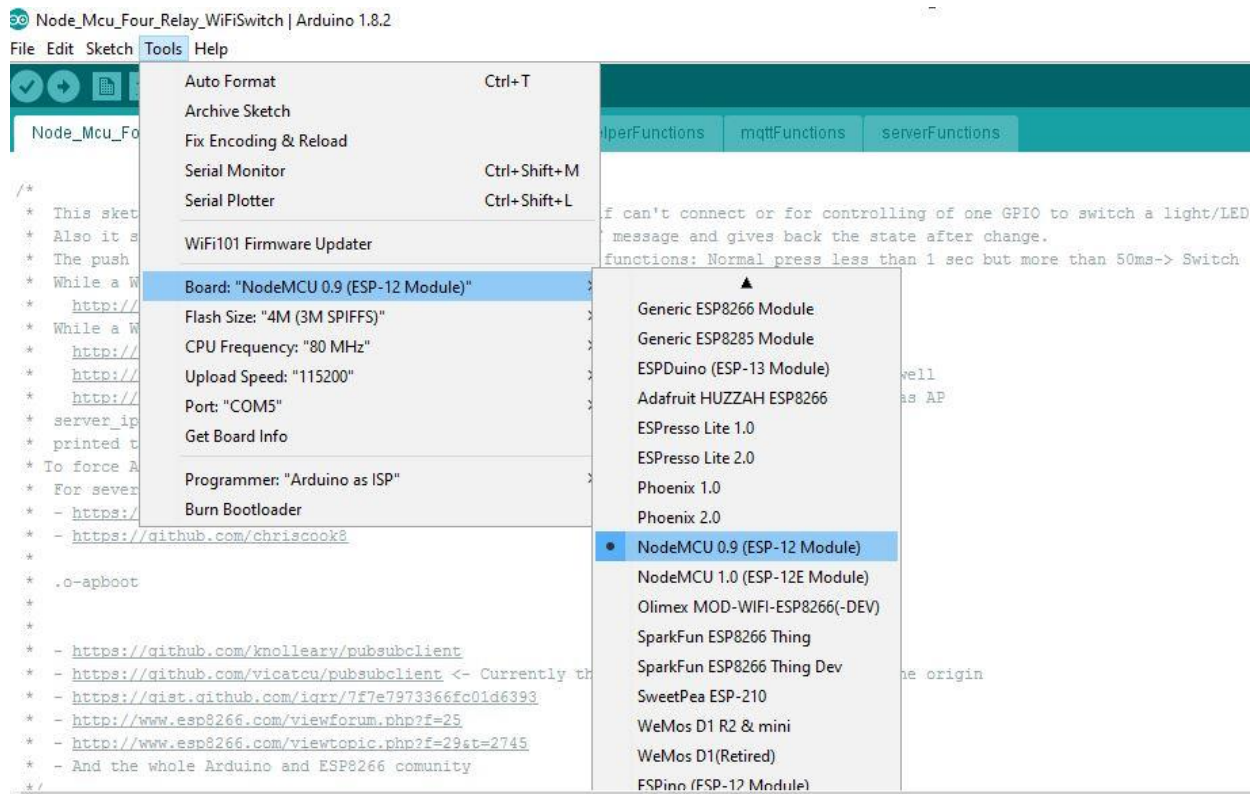

Figure 10: Board Selection
9. Click on Tools Tab, move mouse pointer on "Board: xxxxxxxxxx" and click on "NodeMCU0.9 (ESP-12 Module)" as shown in figure 10.